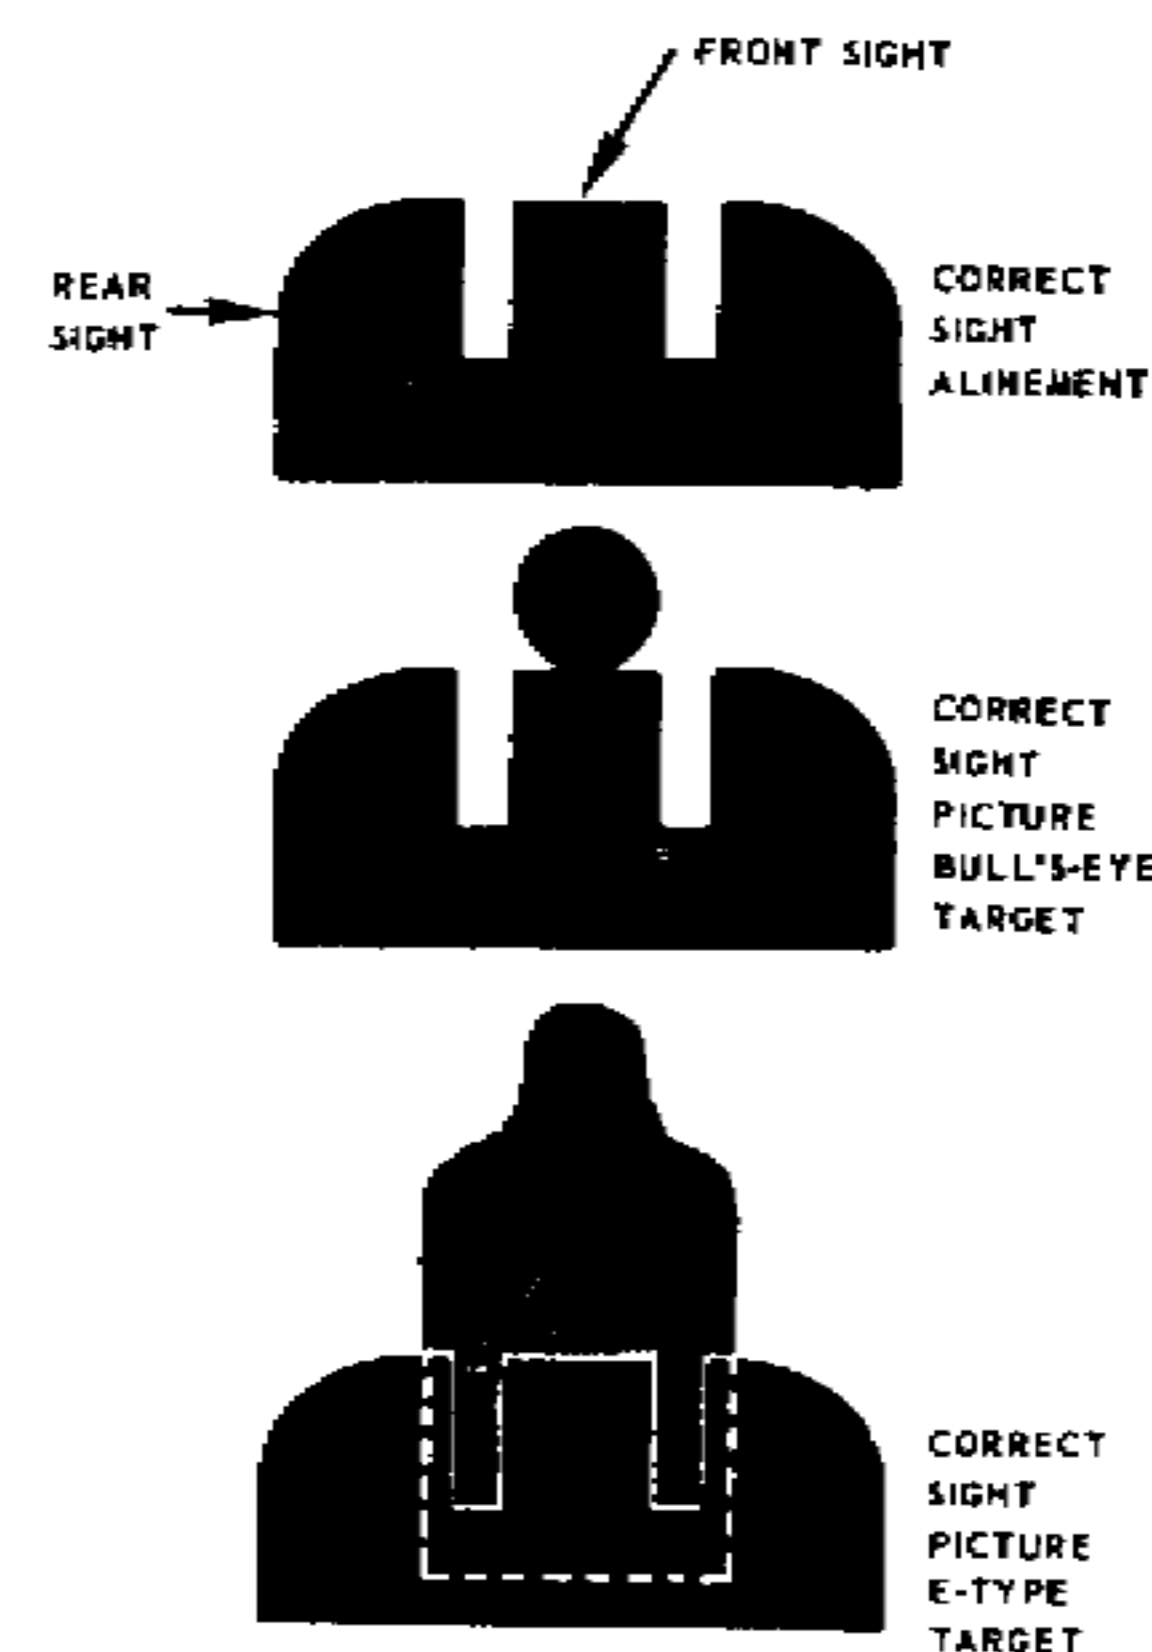

Figure 21. Correct sight alinement and sight picture.
(3) If a firer is tense and nervous, have him breathe deeply several times to relax.
(4) After each table of fire is completed, inspect the pistol to make sure it is clear. Score the target and record the results.
a. Sight alinement or aiming is placing the front and rear sights of the pistol into correct alinement with the eye. For correct sight alinement, the firer must center the front sight in the rear sight and raise or lower the top of the front sight, so that it is level with the top of the rear sight (fig. 21).
b. A sight picture is the pattern of the pistol sights in relation to the target as seen by the firer when he aims the pistol. A correct sight picture consists of correct sight alinement with the bull's-eye centered above and appearing to touch the top of the front sight (fig. 21). When aiming, the eye cannot focus on three objects (rear sight, front sight, bull's-eye) at different ranges. Therefore, the last focus of the eye is always on the front sight. The front and rear sights will be seen clear and sharp while the bull's-eye will appear to be a bit hazy. With correct sight alinement, the strike of the bullet will be in the bull's-eye even if the sight picture is partially off the center but still touches the bull's-eye. Since it is impossible to hold the weapon perfectly still, the shooter must understand that he must apply trigger squeeze